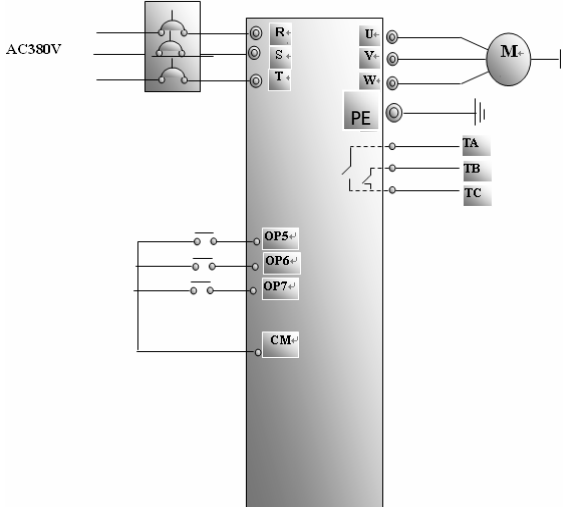

Figure 4-2 Wiring Diagram 2
(1) Connect the wires in accordance with Figure 4-2. After having checked the wiring successfully, switch on the air switch, and power on the inverter: